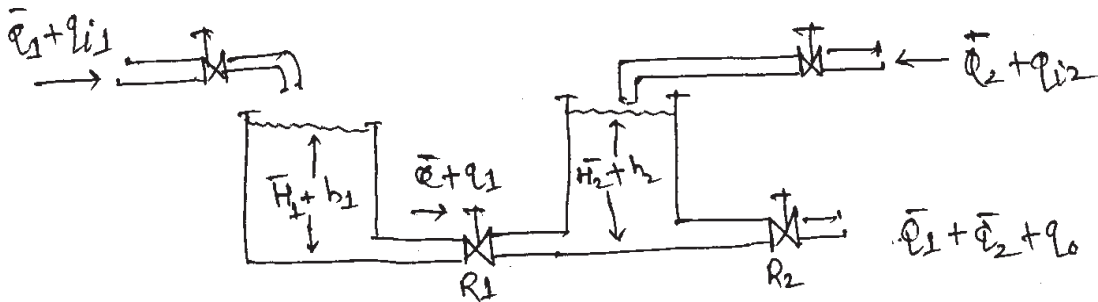

Fig No. 06.
b) Consider the liquid-level system shown in figure No. 06. In the system